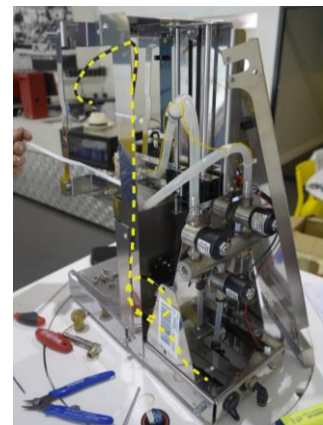

Figure 44: Correct pathway of USB Cable
3. Ensure correct pathing of USB cable, see Figure 44.